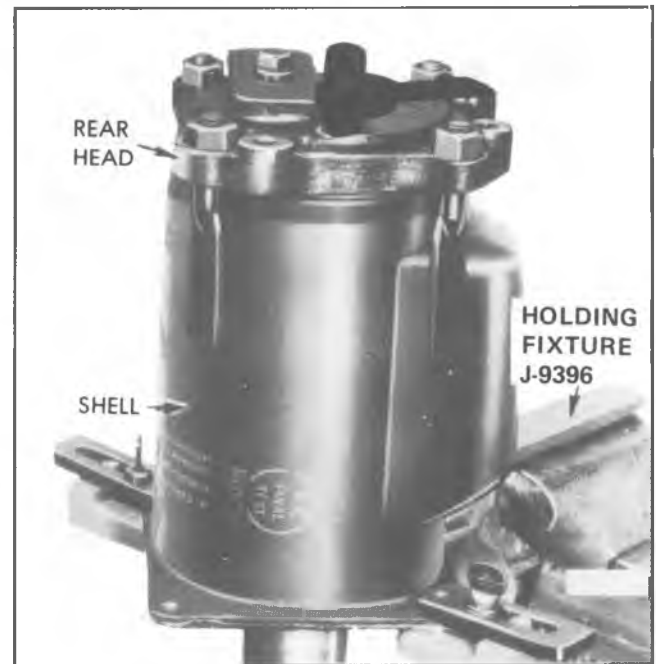

Fig. 24--Compressor Installed in Holding Fixture
3. Invert compressor and Holding Fixture J-9396 with front end of compressor shaft facing downward. (Fig. 24).
4. Remove four locknuts from threaded studs on compressor shell and remove rear head. Tap uniformly around rear head if head is binding. (Fig. 24)